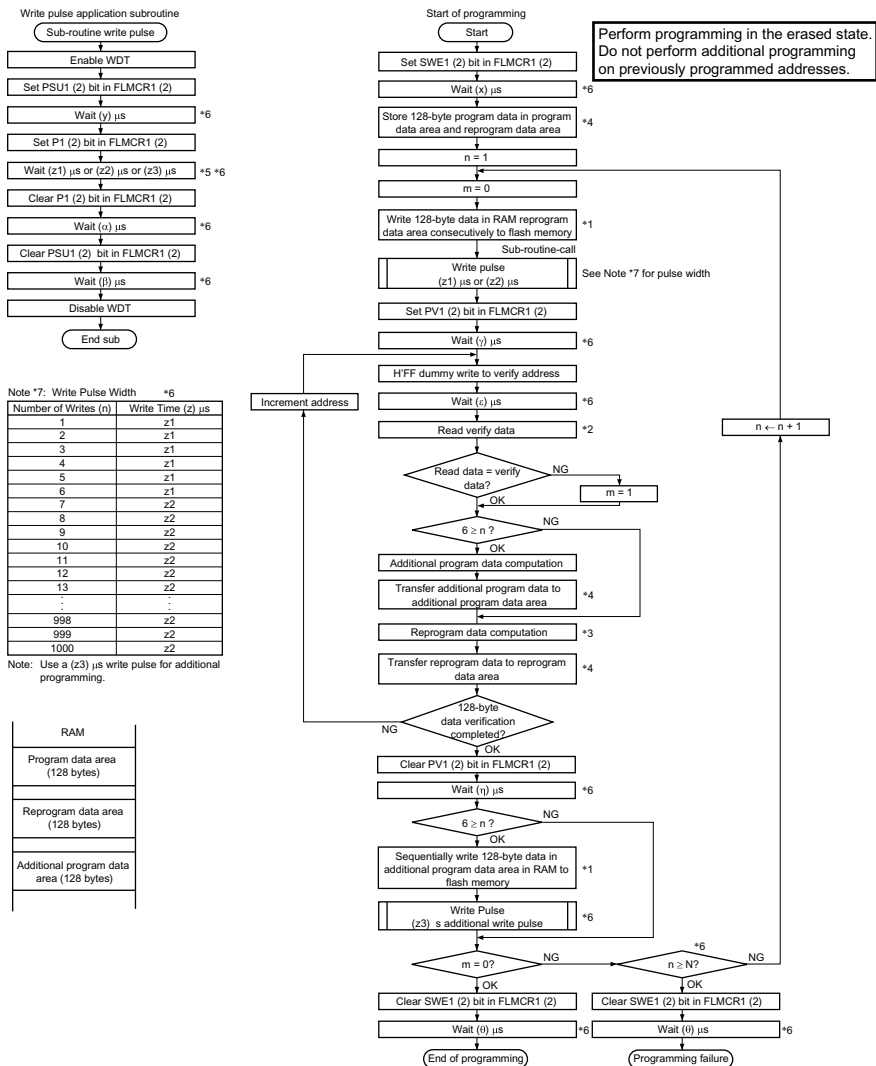

Figure 17-45 Program/Program-Verify Flowchart
Follow the procedure shown in the program/program-verify flowchart in figure 17-45 to write data or programs to flash memory. Performing program operations according to this flowchart will enable data or programs to be written to flash memory without subjecting the device to voltage stress or sacrificing program data reliability. Programming should be carried out 128 bytes at a time.
After the elapse of a given programming time, the programming mode is exited (the Pn bit in FLMCRn is cleared to 0, then the PSUn bit is cleared to 0 at least $(\alpha) \mu s$ later). Next, the watchdog timer is cleared after the elapse of $(\beta) \mu s$ or more, and the operating mode is switched to program-verify mode by setting the PVn bit in FLMCRn. Before reading in program-verify mode, a dummy write of H'FF data should be made to the addresses to be read. The dummy write should be executed after the elapse of $(\gamma) \mu s$ or more. When the flash memory is read in this state (verify data is read in 16-bit units), the data at the latched address is read. Wait at least $(\epsilon) \mu s$ after the dummy write before performing this read operation. Next, the originally written data is compared with the verify data, and reprogram data is computed (see figure 17-45) and transferred to the reprogram data area. After 128 bytes of data have been verified, exit program-verify mode and wait for at least $(\eta) \mu s$, then clear the SWEn bit in FLMCRn to 0, and wait again for at least $(\theta) \mu s$. If reprogramming is necessary, set program mode again, and repeat the program/program-verify sequence as before. However, ensure that the program/program-verify sequence is not repeated more than (N) times on the same bits.